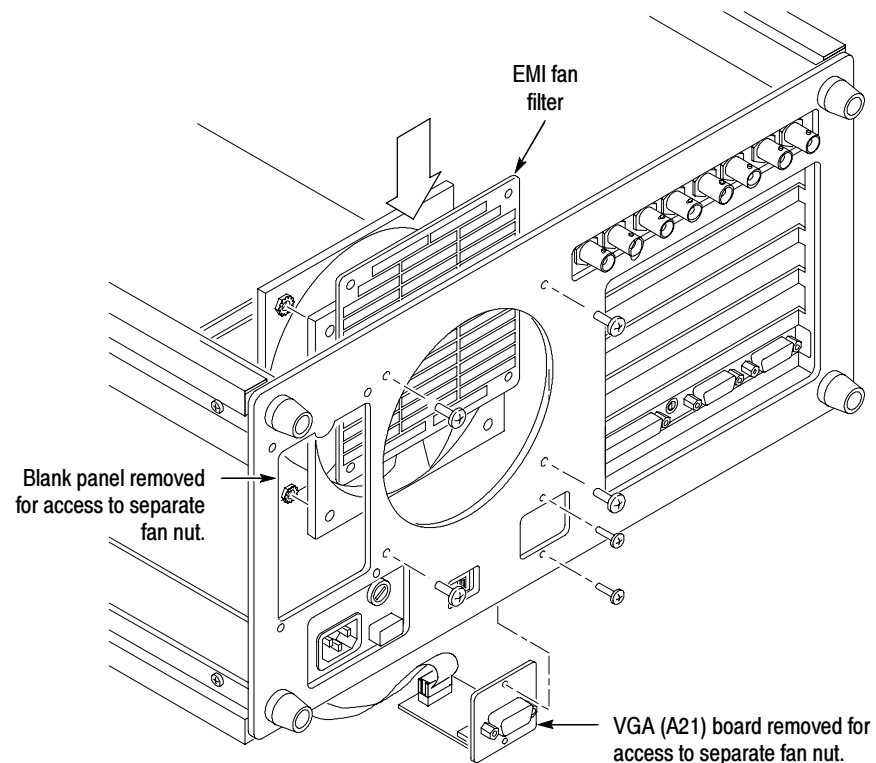

Figure 13: EMI Fan Filter location (VM700T - SN B029999 & below)
2. Remove the screws from the VGA Connector circuit (A21) board to allow access to the lower right fan housing nut as shown in Figure 13.
4. Remove the left blank panel and discard. This allows access to the lower left fan assembly nut as shown in Figure 13. Later, you will install the SDI (A23) Interface Panel in this position.
1. Remove the screws from the VGA Connector circuit (A21) board to allow access to the lower right fan housing nut as shown in Figure 13.
3. Remove the left blank panel and discard. This allows access to the lower left fan assembly nut as shown in Figure 13. Later, you will install the SDI (A23) Interface Panel in this position.